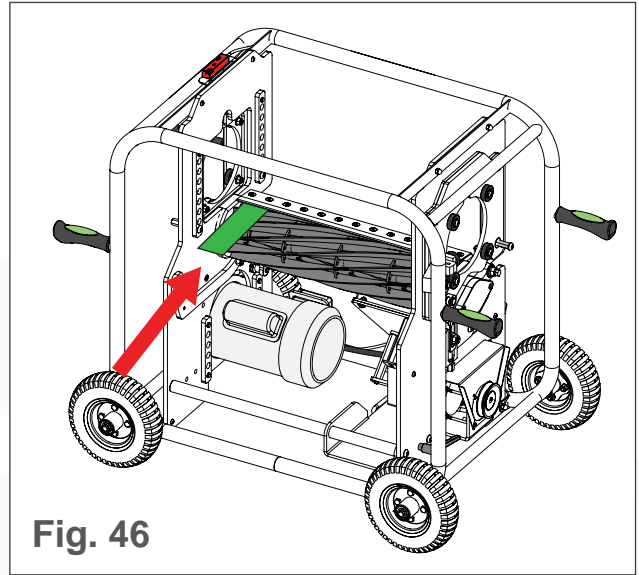

Fig. 46
2. At one end of the blade, insert a 0.005" shim horizontally between the helix blade and the bed knife (see Fig. 46).